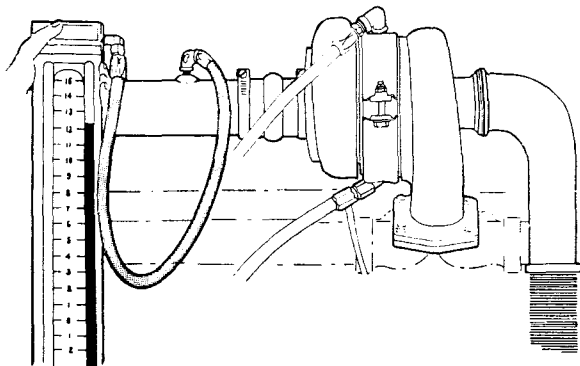

Fig. 3. Checking air cleaner restriction with manometer
**Suggestion:** Low power accompanied by heavy smoke indicates trouble in the cylinder due to failure to burn the fuel supplied. Check injectors, valves and air supply. Check turbocharger, if used. Fig. 3.